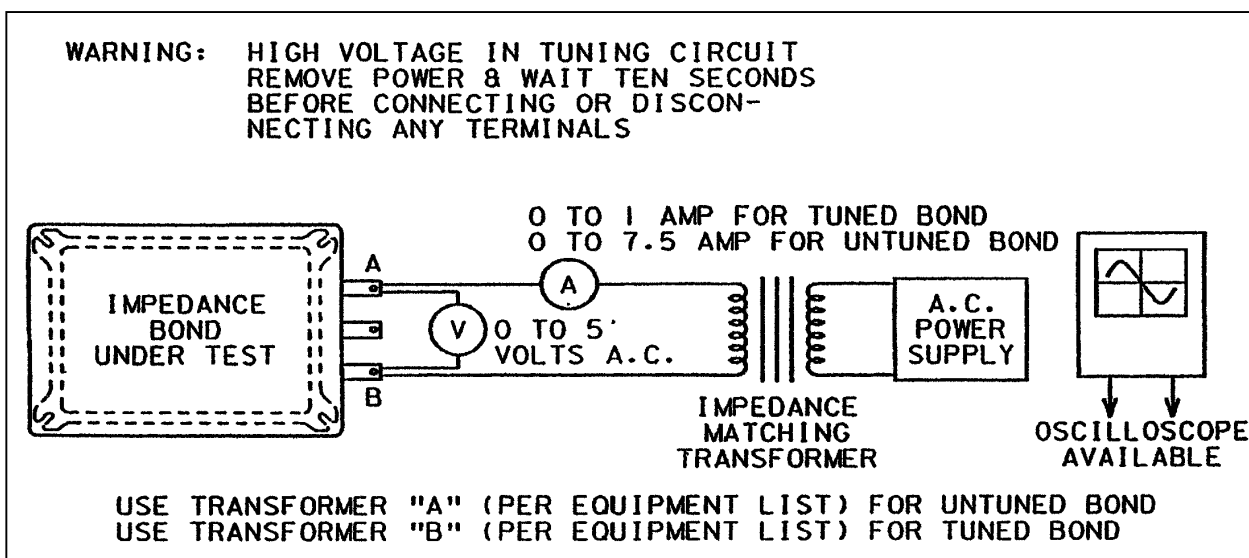

FIGURE 3-4 IMPEDANCE CHECK/TUNING TEST CIRCUIT
Set up the circuit of Figure 3-4. Adjust the AC power supply to 60, 91.67 or 100 hertz. Adjust the AC power supply output voltage until 1 volt $\pm$ 0.01 volt is measured across bond terminals "A" and "B". Measure and record on the worksheet the frequency, voltage and the current. The current indicated by the ammeter must be within the range tabulated below for the appropriate frequency. On the worksheet, circle the appropriate result, pass or fail. If the bond fails the test, then the air gap needs adjusting.
- b. Set up the test circuit of Figure 3-4, using an impedance matching transformer (see equipment list).
- a. Set up the test circuit of Figure 3-4.
- c. Set the voltage (V) across the bond's outside terminals to 1.00 ± 0.1 volts.
- d. Measure the current (I) and record the value in Appendix Subsection B.5.2 worksheet under the appropriate trial heading. Impedance calculation, $Z = V/I$ (V = 1 volt) is optional. It may be recorded in the space provided.
- d. Measure the current (I) and record the value in Appendix Subsection B.5.2 worksheet under the appropriate "trial #" heading. Impedance calculation, $Z = V/I$ is optional. It may be recorded in the space provided.